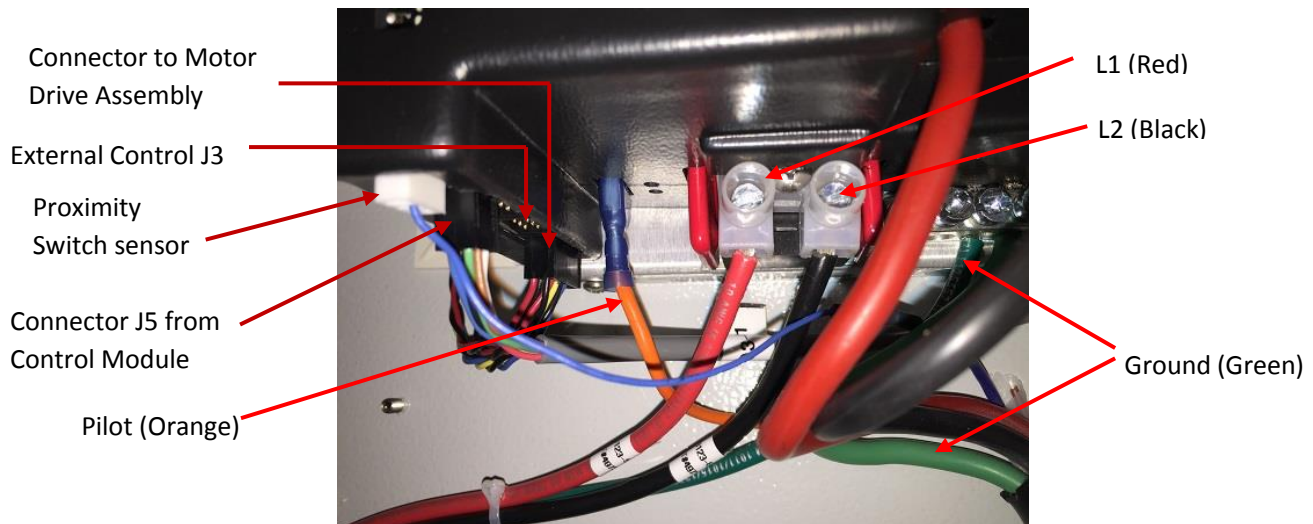

Figure 10
**Step D2:** Disconnect any connector that might be attached to J3 (External Control) on the GFI Module. (**Figure 10**). Recheck tester LEDs. Does this resolve the tester LED issue?
**Step D3:** Verify the J1772 cable wires are securely connected at the GFI Module. (**Figure 10**). They are Ground (Green), Pilot (Orange), L1 (Red) and L2 (Black). Are all J1772 cable wires securely connected?
**Step D4:** Check the continuity of the four (4) wires running from the J1772 connector to the GFI Module (**Figure 10**). Check each from its pin on the J1772 connector (**Figure 2**) to its termination at the GFI Module. Have any broken wires been isolated?